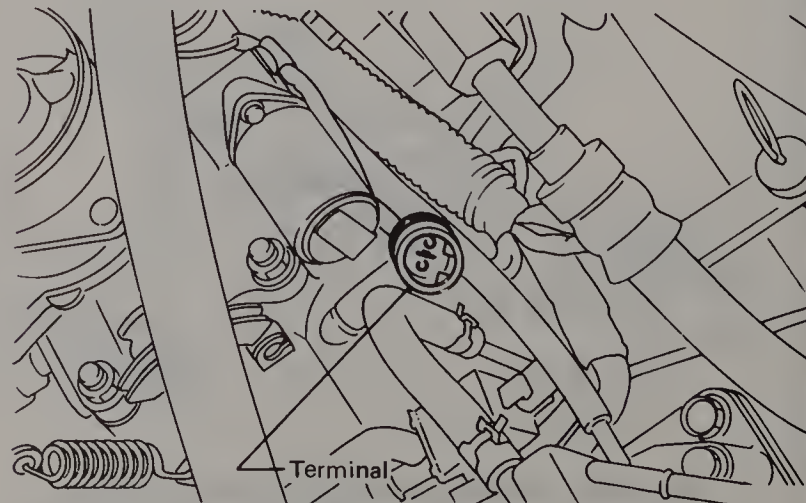

Fig. 13.41 The voltage for the fuel injector should be checked on the wiring harness side of the connector (Sec 8)
- 36 Measure the voltage between the terminals in the engine wiring harness side of the fuel injector connector and a good engine ground (Fig. 13.41). It should be 12-volts.